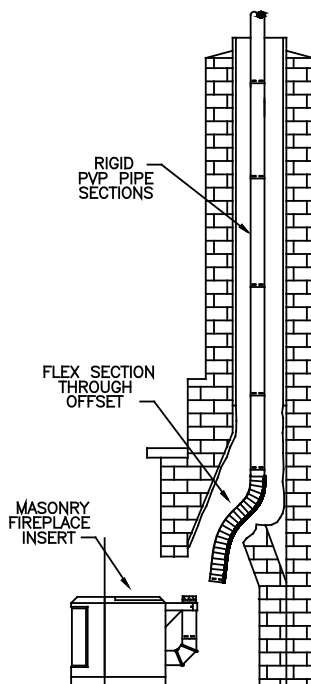

Figure 19
7. Repeat this process for the remainder of the pipe sections, and lower the assembly down the chimney as shown in **(Figure 19)**. Lower it below its normal position in order